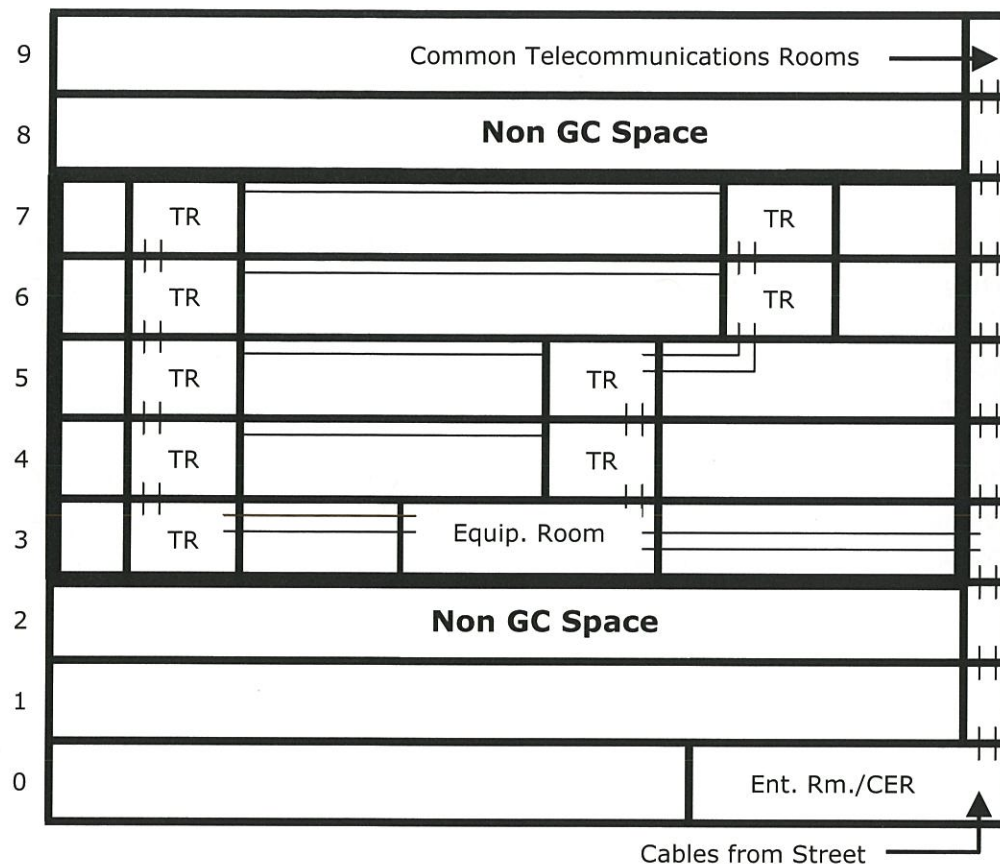

Figure 2: Telecommunications Spaces and Backbone Pathways in Leased Space
Figure 2 below illustrates the telecommunications infrastructure of spaces and backbone pathways in a typical building where the Crown has leased only some of the available office space. In this example, Government of Canada (GC) space is on floors 3 to 7 inclusive and thick lines are used to separate space occupied by the GC from both space leased to others, as well as the landlord's common spaces.
This example provides the same telecommunications infrastructure under Scenario 1 above, but is limited to the four floors of the building leased by PWGSC – see Figure 2: Telecommunications Spaces and Backbone Pathways in Leased Spaces. The Common Equipment Room, Entrance Room, and Common Telecommunications Rooms are located outside of the leased space.
An existing room is found that is suitable for use as a combined Telecommunications Room and Equipment Room. Backbone pathways are installed connecting this room to a Common Telecommunications Room located outside of the leased space (see Figure 2: Telecommunications Spaces and Backbone Pathways in Leased Spaces). Given the small size of the space, J-hooks are used to support horizontal cable distribution. (Conduit or cable tray could also be used, if warranted by the characteristics of the space.)